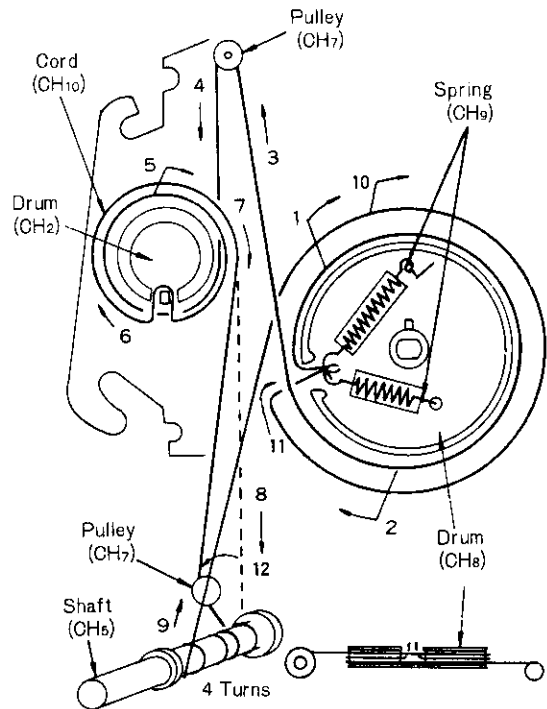

Fig. 5
- 4. Set each dial drum at the position, as shown in fig. 5.
- 5. Arrows (1~12) indicate correct order and direction of dial cord installation, as shown in fig. 5.